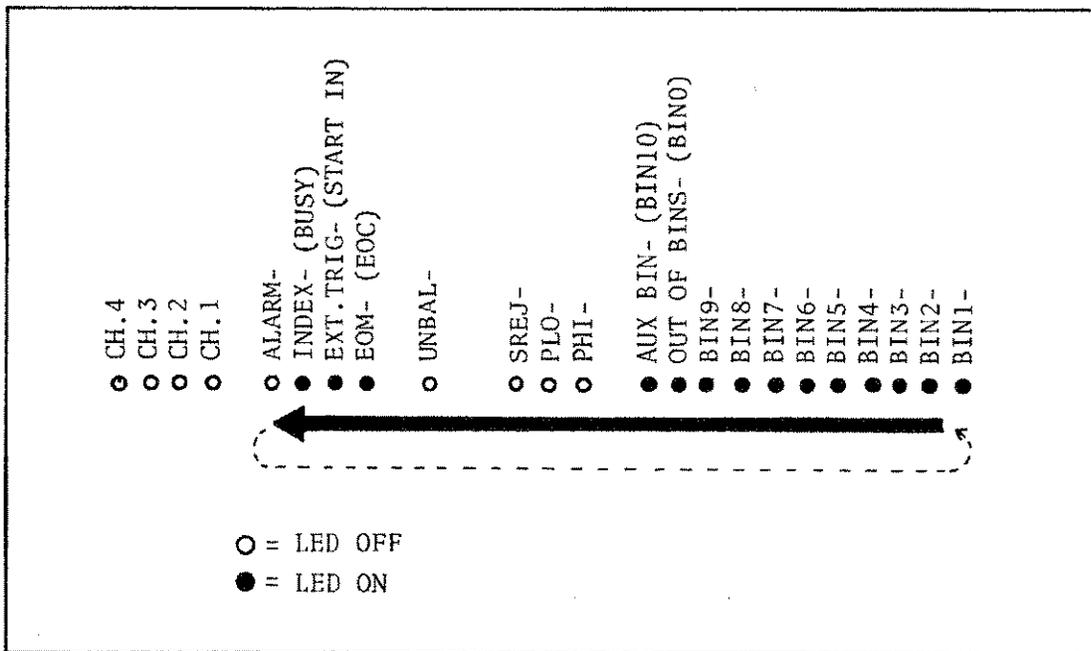

Figure 6-15. Handler Interface Function Check (Option 202)
14. Confirm that the LEDs on the handler simulator board light in the sequence shown in Figure 6-15.